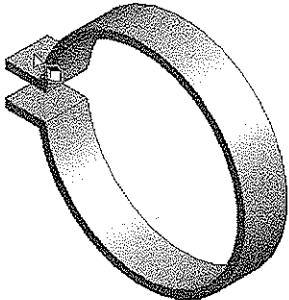

Figure 3-102 Selecting the flat face for defining the Sketching plane
- 1. Select the top face of the rectangular flange, refer to Figure 3-102.